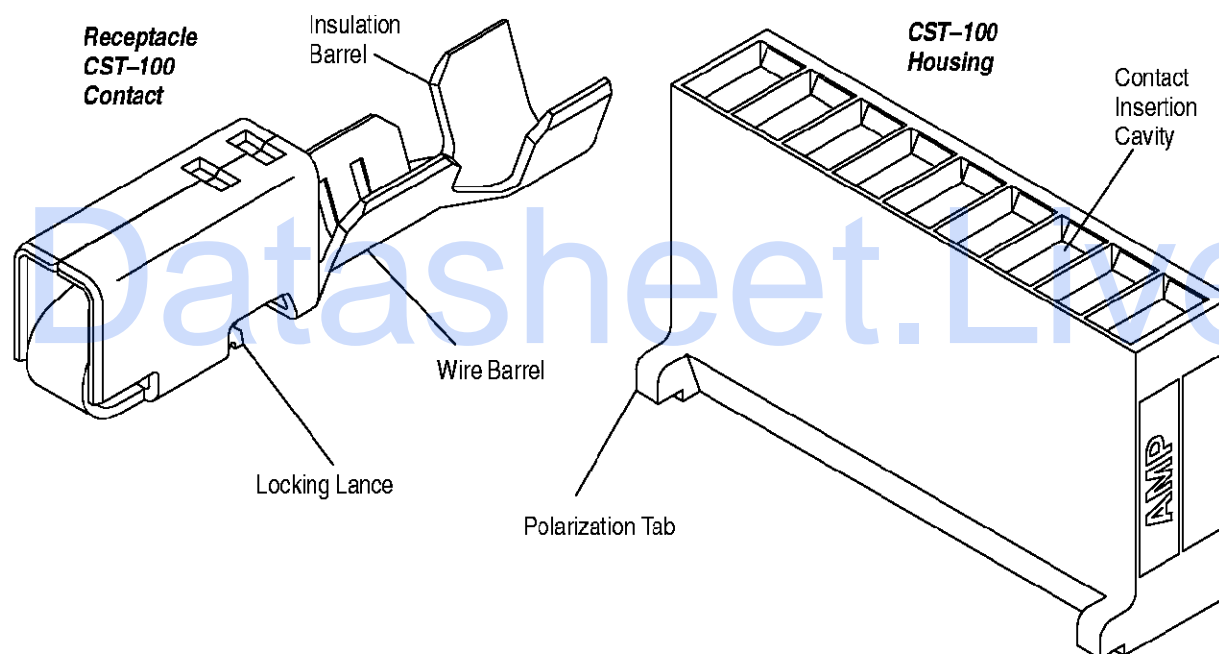

Figure 1
When corresponding with AMP personnel, use the terminology provided on this specification to help facilitate your inquiry for information. Basic terms and features of components are provided in Figure 1.
- Added new or corrected artwork in Figures 1, 3, 4, 5, 6, 7, 8, and 9